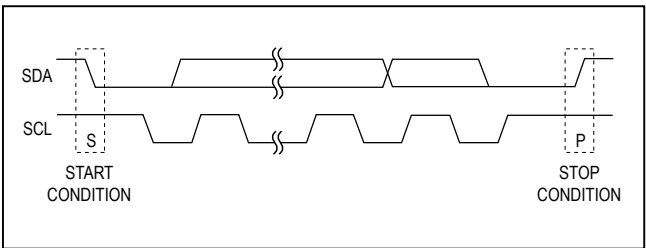

Figure 5. Start and Stop Conditions
Both SCL and SDA remain high when the interface is not busy. A master signals the beginning of a transmission with a START (S) condition by transitioning SDA from high to low while SCL is high (Figure 5). When the master has finished communicating with the slave, it issues a STOP (P) condition by transitioning SDA from low to high while SCL is high. The bus is then free for another transmission.